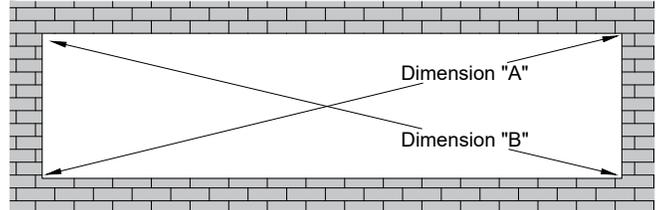

Fig 23.1
- A. Make sure the opening is square and plumb. Measure each diagonal of the opening. **SEE Fig. 23.1.**